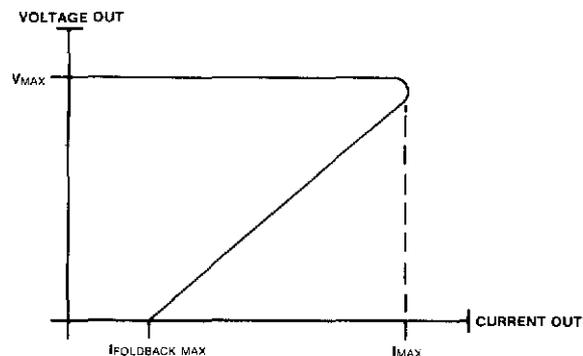

Figure 6A-3. Foldback Current Limiting
**6A-20. PWM CURRENT LIMITING.** This power supply uses fold-back current limiting (figure 6A-3). The actual current limit value is determined by sensing the DC voltage developed across the internal resistance of T6 pins 2,11 and 3,10 (T6 contains six internal inductors). Current limiting of the -5.2V supply works by developing a voltage across C20 that is equivalent to the maximum load current times the internal resistance of T6 pins 2,11 and 3,10. The voltage across C20 is then compared to the reference voltage at pin 15 of U5. The foldback of the maximum current limit value is determined by the decrease in the voltage across R17. When the voltage across R17 decreases, the voltage required across C20 also decreases. The decrease across C20 causes the PWMs internal comparator to go more positive and reduce modulation until the -5.2 output voltage across R16 increases, allowing C20 to charge to the value of the reference voltage.